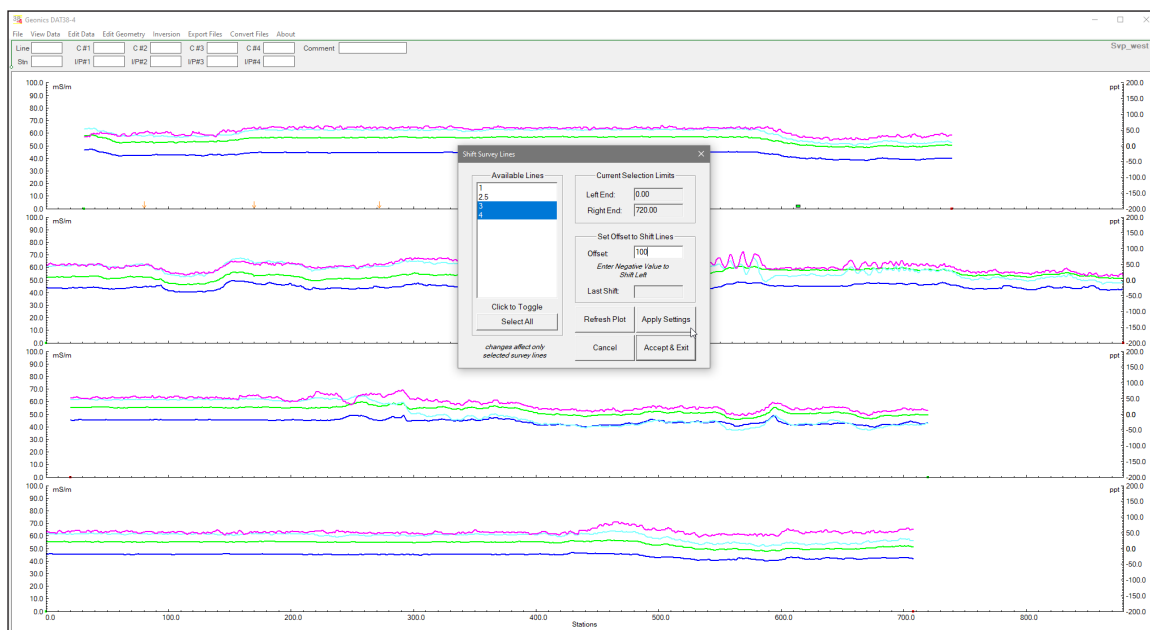

Figure 5.7 DAT38-4 profile display before Shift of survey lines is applied
- For example, Figures 5.7 and 5.8 show lines 3 and 4 shifted 100 stations to the right.